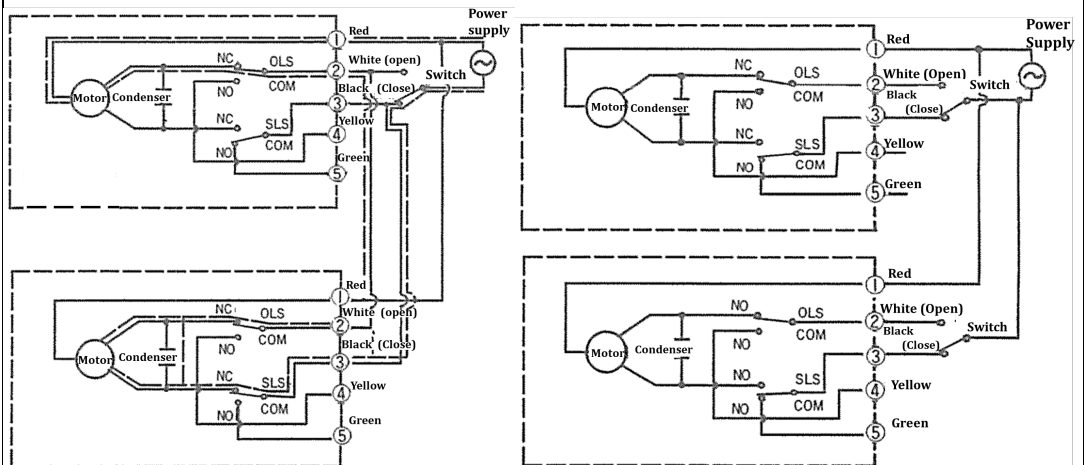

Fig.36
- **Do not** use an actuator for parallel operation of valves. As in the figure 36 it will generate an abnormal electricity and cause melting adhesion or damage of built-in switches, and damage of cams. For actuation of two or more valves with one actuator, provide a separate operation switch for each valve. (Except type EAL)